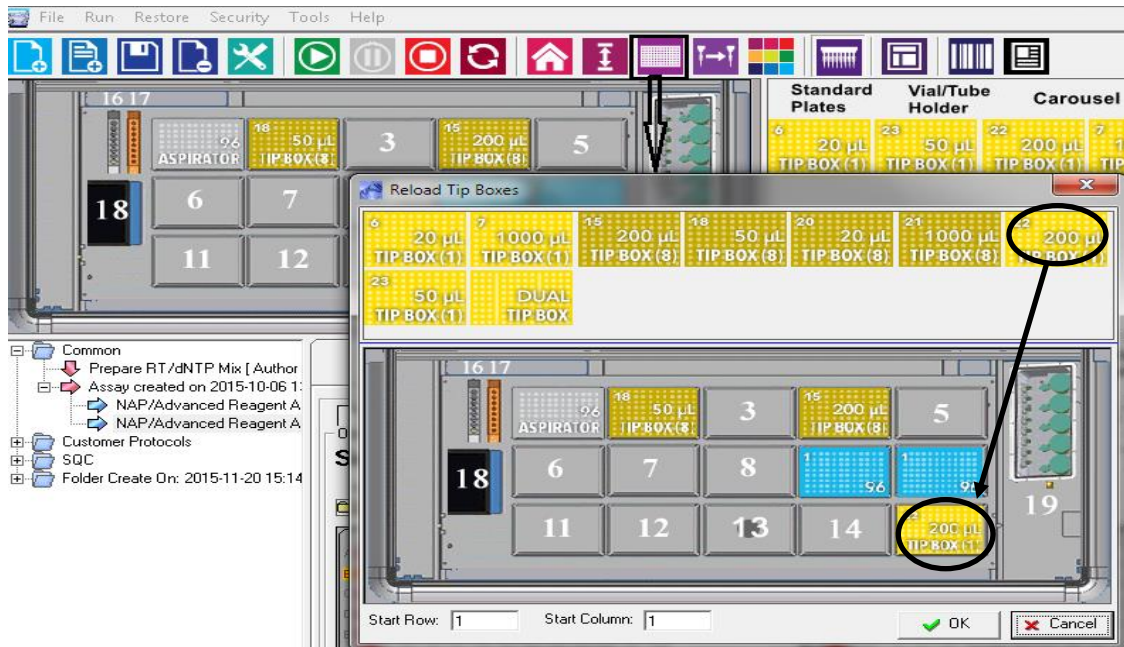

Figure 9-19 Aurora Station –Reload Tip Box
To let the software know that you have a full tip-box you must “reload the tip boxes” by dragging and dropping the correct size of tip box in the software to the location where it exists on the deck (Figure 9-19 Aurora Station –Reload Tip Box). In the VERSA1100 main interface menu, drag 200 Tip (1) representing single channel 200µL Tip Box to position 15. Or under Reload Tip Boxes mode, drag 200Tip (1) to position 15.